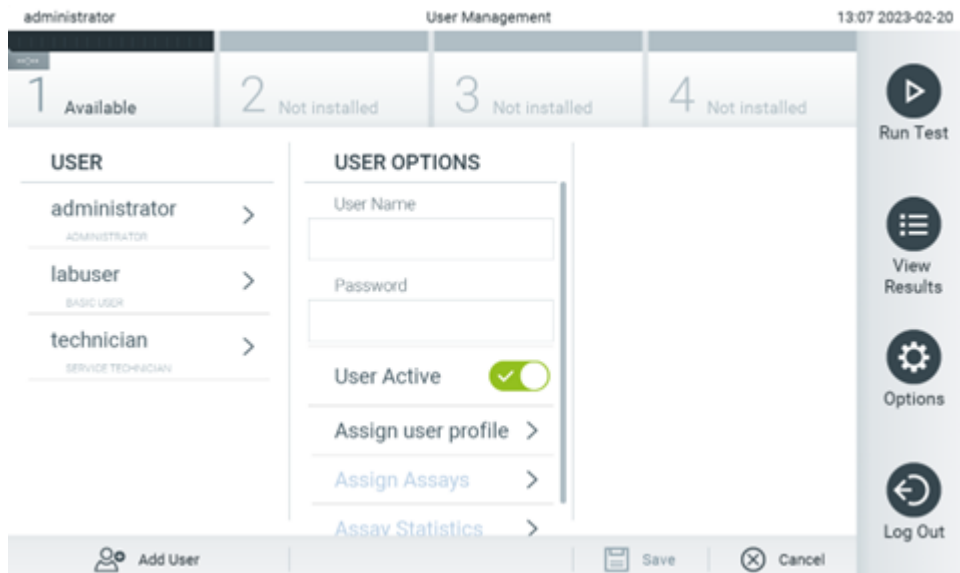

Figure 55. Adding a new user.
1. Press **Options > User Management** to configure users. The User Management screen appears in the content area of the display (Figure 55).